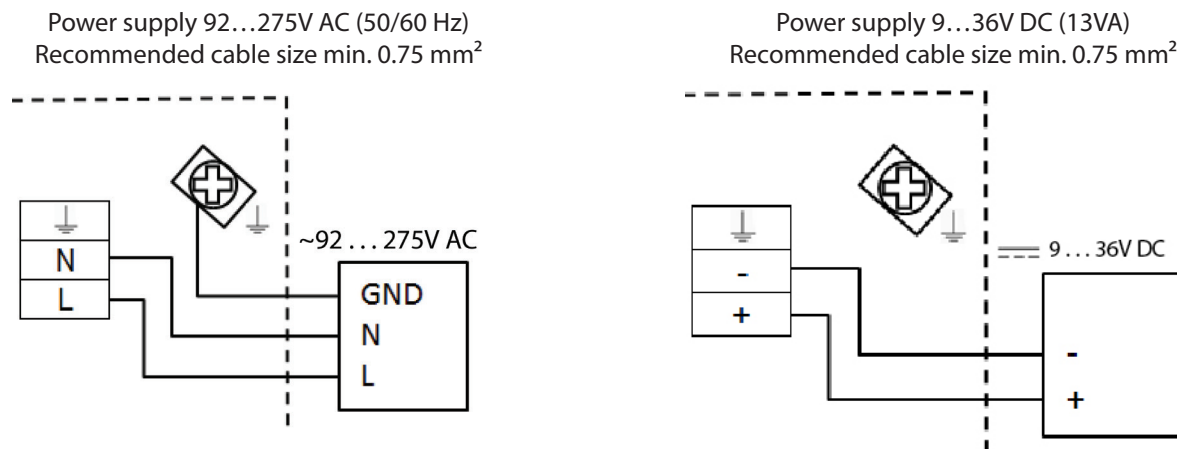

Figure 25: Auxiliary power connection
3. Connect as shown in Figure 25.